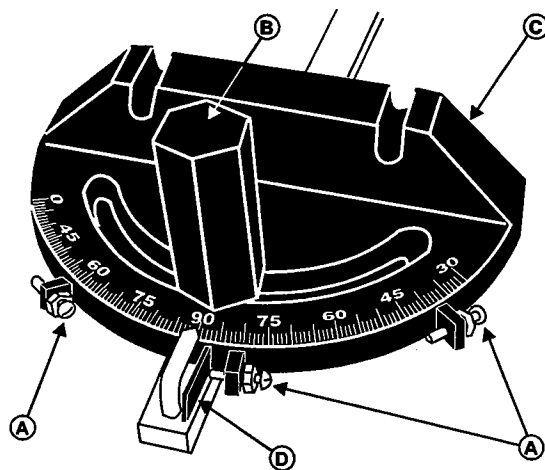

FIGURE 6
The miter gauge is equipped with individually adjustable index stops at 90 degrees and 45 degrees right and left. The index stops can be adjusted by tightening or loosening the three adjusting screws (A), Figure 6.